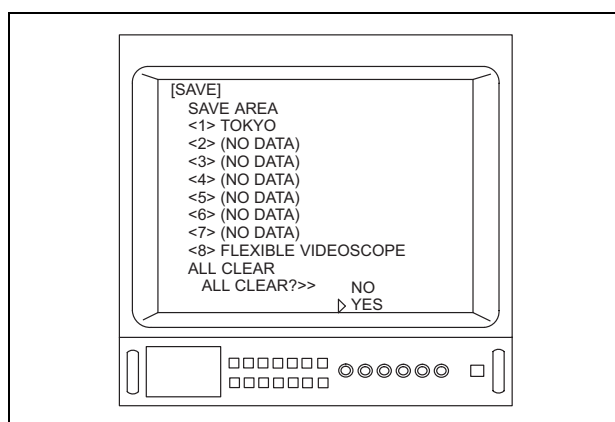

Figure 5.78
- Depress the menu switches "◀" or "▶", or the "↑/↓/←/→" key on the keyboard to choose "YES" (see Figure 5.78).